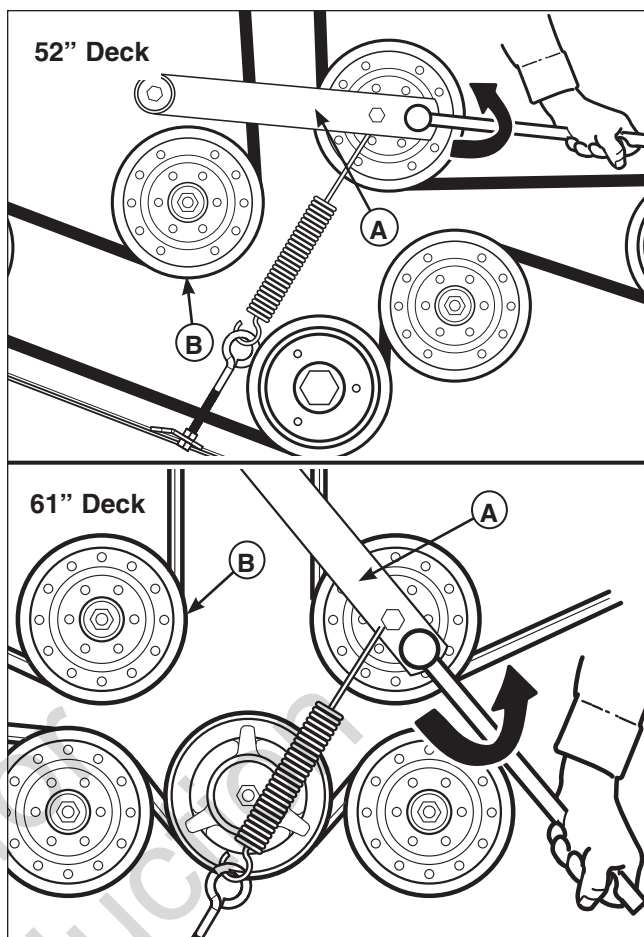
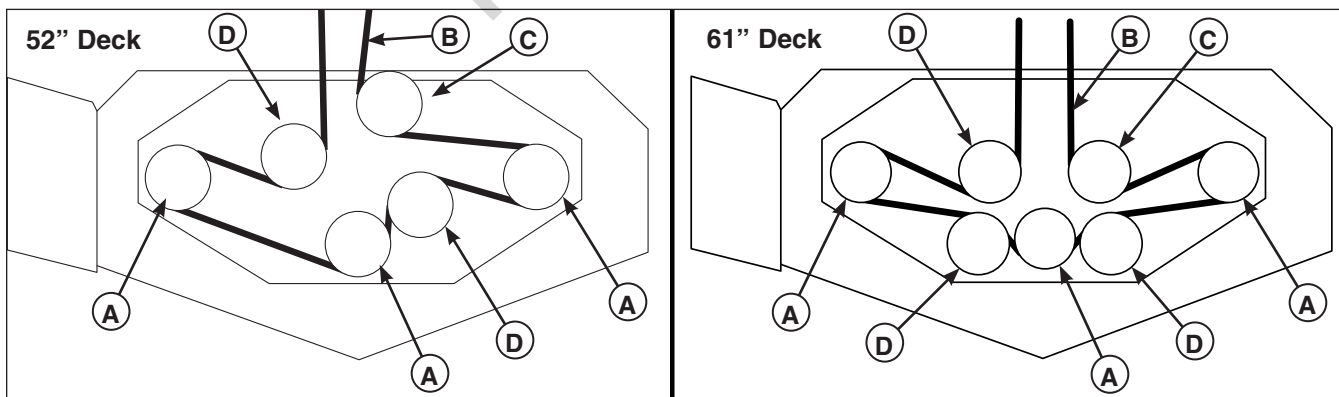

Figure 56. Mower PTO Belt
Figure 57. Mower PTO Belt Routing
2. Using a 1/2" breaker bar, place the square end in the square hole located in the end of the idler arm (A, Figure 56). Carefully rotate the breaker bar counter-clockwise, which will relieve the tension on the belt exerted from the idler arm.
3. Slide the drive belt over the edge of the stationary idler pulley (B). Carefully release the tension on the breaker bar until the idler arm stops against the center spindle pulley.
4. Remove the old belt and replace with a new one. Make sure the V-side of the belt runs in the pulley grooves (Figure 57).
5. Install the drive belt on the PTO pulley, the spindle pulleys and all idler pulleys except the stationary pulley (B, Figure 56). Carefully rotate the breaker bar counter-clockwise and install the belt on the stationary idler pulley (B). Carefully release the tension on the breaker bar.